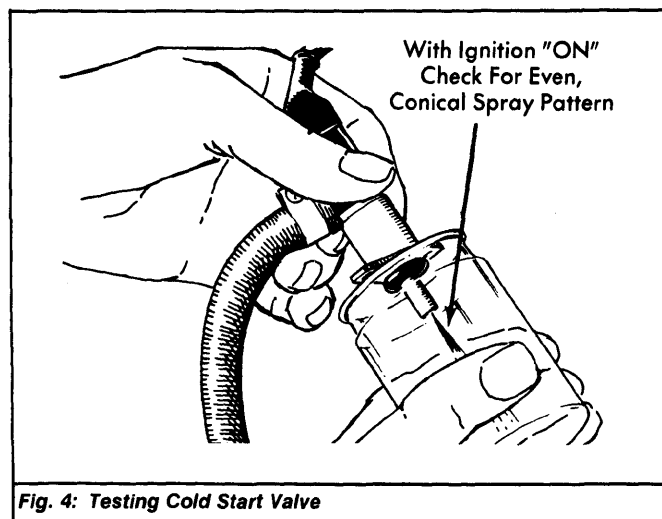

Fig. 4: Testing Cold Start Valve
2) Have an assistant turn ignition on and operate starter. Valve must spray an even, cone-shaped pattern for about 1-8 seconds. See Fig. 4. If not, replace cold start valve.